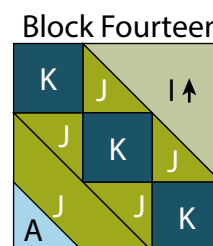

Fig. 27
15. Repeat Step 14 and refer to Figure 27 for fabric identification, placement and orientation to make (1) Block Fourteen square.